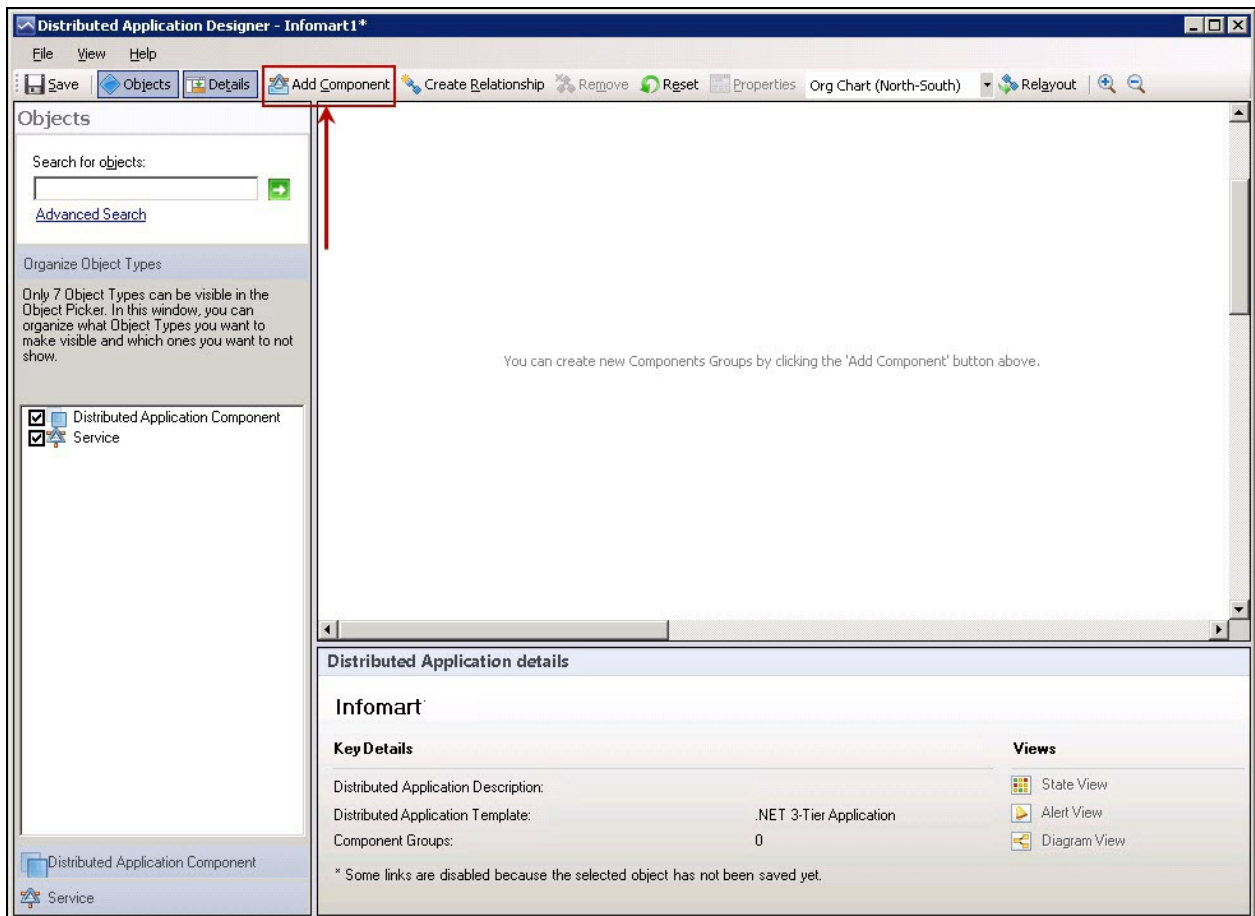
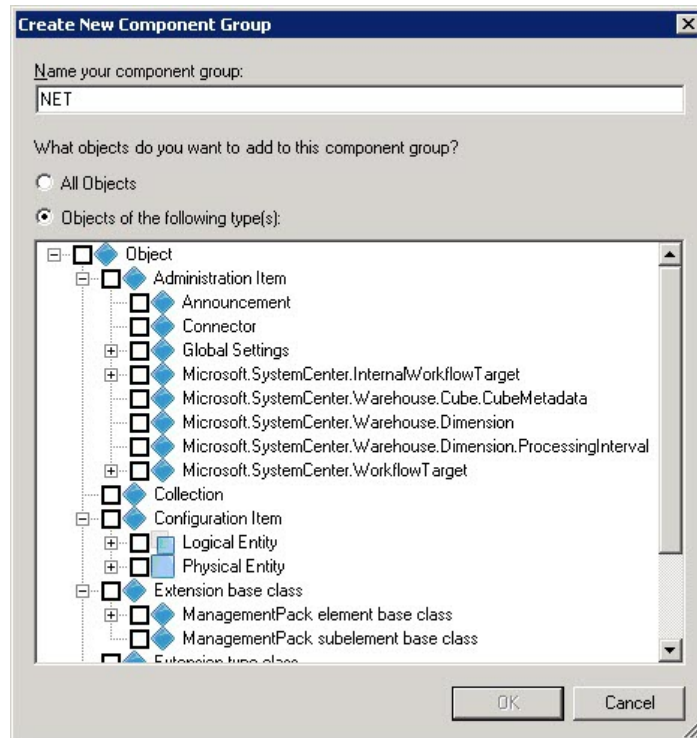
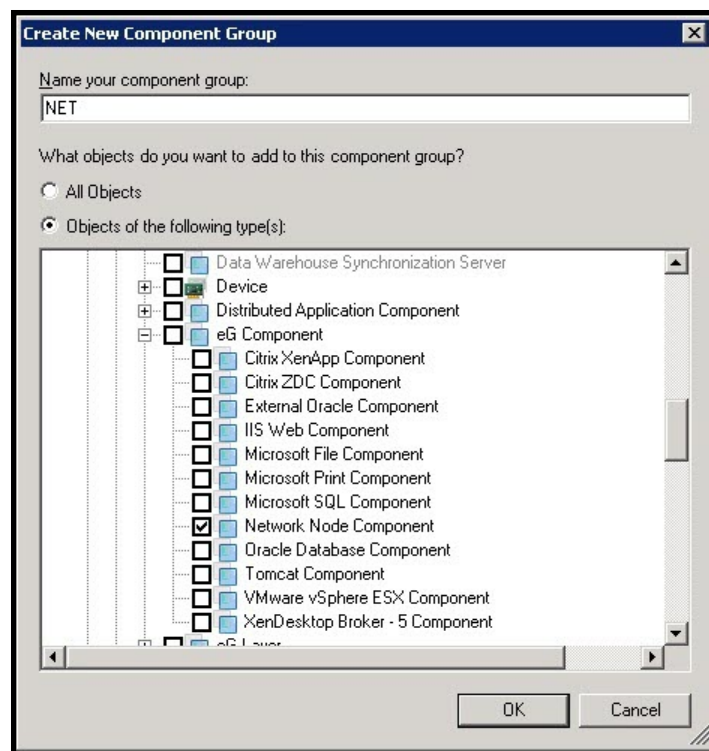

Figure 4.28: A message indicating that new component groups have to be added
Figure 4.29: Naming the component group
Figure 4.30: Selecting the Network Node Component group
5. The **Distributed Application Designer** window will display a default template for constructing the topology of the distributed application. Each 'box' in the default template represents a default component group that you can use in your service topology. As we do not intend to use this default template, delete it by selecting every 'box' in the template and pressing the **Delete** button on the keyboard. Once all the default component groups are removed, you can proceed to add new component groups (see Figure 4.28) using the **Distributed Application Designer** window.
6. To add a new component group, click on the **Add Component** button indicated by Figure 4.28. The **Create New Component Group** dialog box will then appear (see Figure 4.29). Let us begin topology building by adding the *Network Node* component in our example, *infoway_network*. For this, first create the *Network Node* component group using Figure 4.29 and then add the *infoway_network* component to it. To achieve this, first specify the name that you wish to assign to the *Network Node* component group in the **Name your component group** text box in Figure 4.29. For the purpose of our example, let us name this group, **NET**. Then, pick the **Objects of the following type(s)** option in Figure 4.29 and then scroll down the tree-structure below until you find the **eG Component** node (see Figure 4.30). Expand the node, and pick the **Network Node Component** group by selecting the check box alongside. Then, click the **OK** button in Figure 4.30.